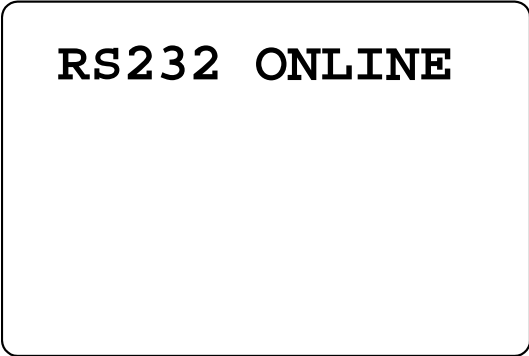

Figure 9-5
5) After online, the picture of LCR Meter will be switched to “RS232 ONLINE”, please refer to Figure 9-5.